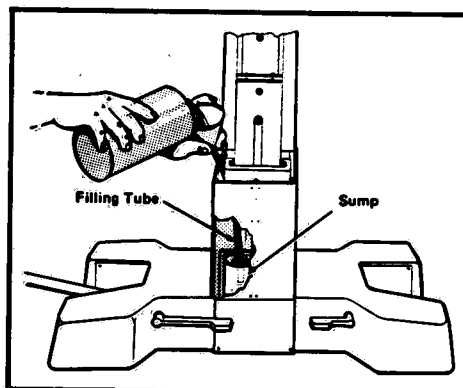

Figure 3-4. FILLING SUMP WITH OIL (Table without Lateral Tilt).
c. Direct the filling tube (furnished) into the sump (Figure 3-4).